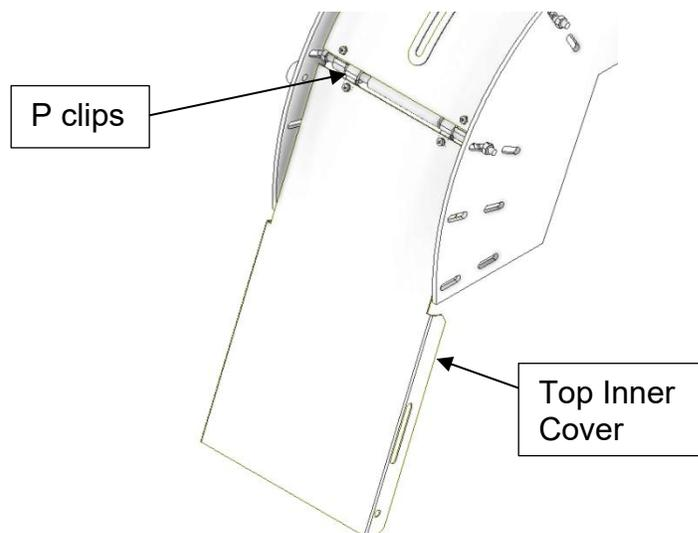

Figure 15
2. Attach the top inner cover using the P clips provided with M5 screws as shown in Figure 15.